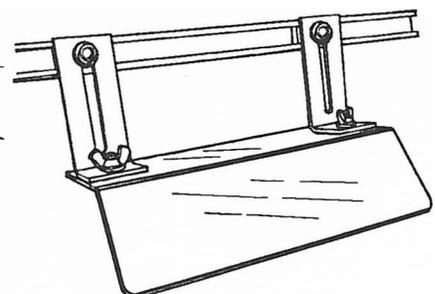

Fig. A-33
**27.** To attach the left side of the guard, repeat Steps 24 and 25. Fig. A-33 illustrates the assembled guard.